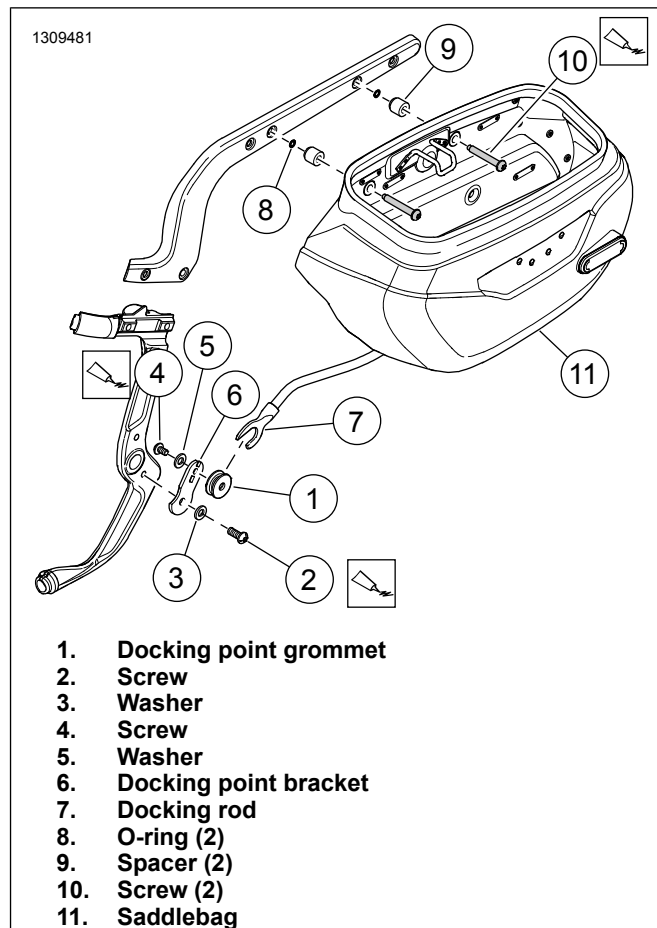

Figure 2. Saddlebag Mounting (left-side)
1. See Figure 2. Install left side docking point grommet.
- a. Position docking point bracket (6) on frame.
- b. Install washer (3) on screw (2).